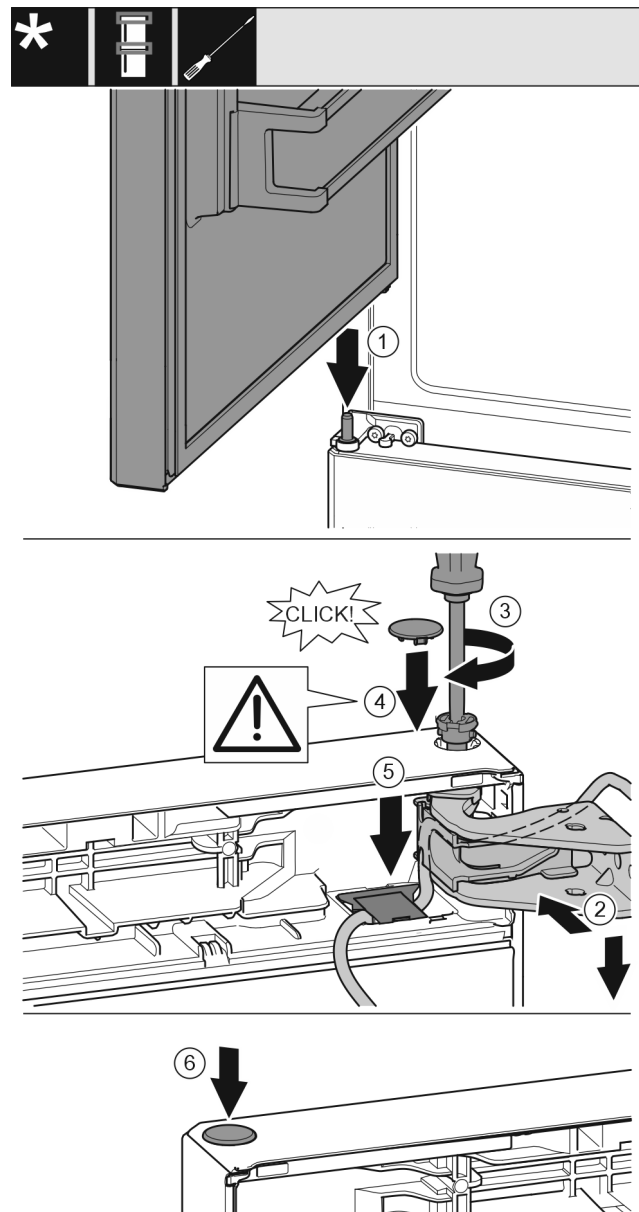

Fig. 40
- ▶ Position to top door onto the center bearing pin Fig. 40 (1).
- ▶ Align the top of the door with opening in the bearing bracket. Fig. 40 (2)
- ▶ Insert the pin Fig. 40 (3) and tighten it with the screwdriver.
- ▶ Mount the safety cover Fig. 40 (4) to protect the door: Insert the safety cover and check whether it is positioned on the door. If so, insert the pin completely.
- ▶ Insert the cover Fig. 40 (5) and press it down until it snaps down.
- ▶ Insert the plug Fig. 40 (6).